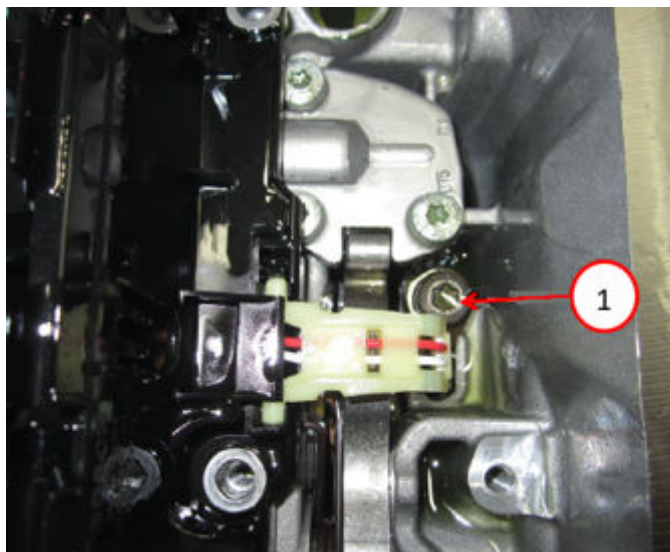

Fig. 46
71. Install the output speed sensor and the bolt in the case and tighten to Fig. 46.